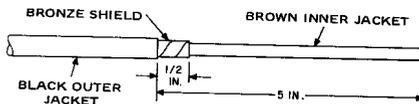

FIGURE 7. Strip Outer Jacket and Bronze Tape
- a. Remove the bronze shield as shown in Figure 7.